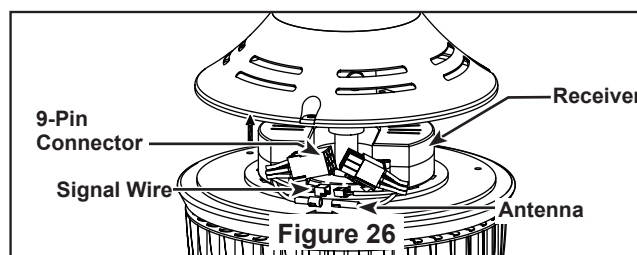

Figure 26
- ☐ 2. Unplug antenna, signal wire and 9-PIN connector then replace new receiver. (Figure 26)